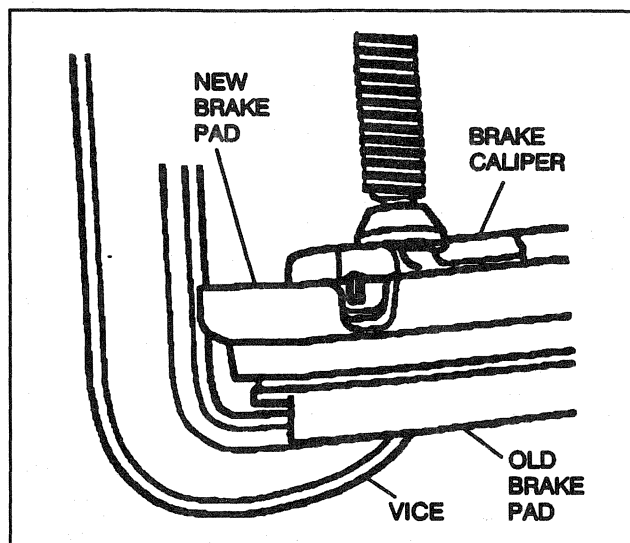

Figure 23—Installing Outer Pad
4. Install the outer brake pad onto the caliper (Figure 23).